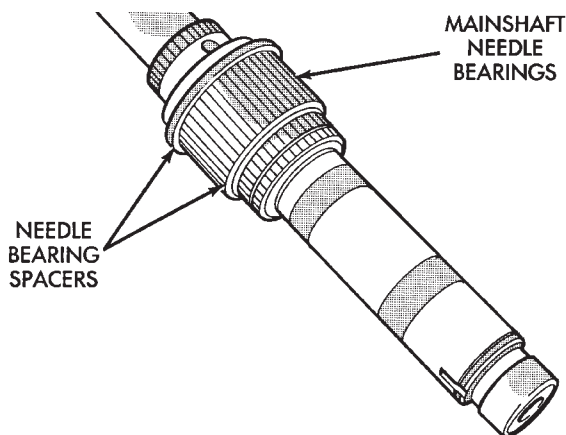

Fig. 43 Mainshaft Needle Bearing And Spacer Position
- (8) Remove needle bearings and spacers from mainshaft (Fig. 43), or from interior of mainshaft